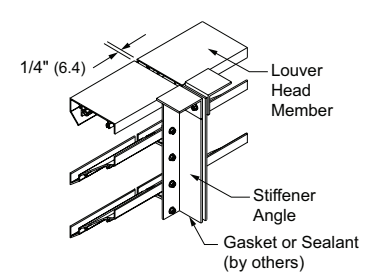

Fig. 3.5 Hidden Mullion
4. For hidden mullions, install gasket or sealant (by others) between mating stiffener angles. See fig. 3.5.